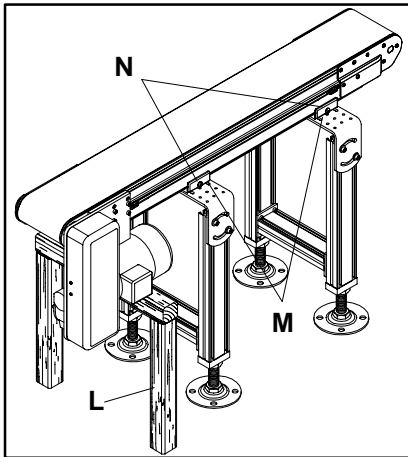

Figure 8
**In addition, the weight of the gearmotor is all on one end of the conveyor. This could cause the conveyor to tip off the stands when the mounting clamps are removed. Be sure to provide some form of support (L of Figure 8) underneath the gearmotor while the belt is being changed.**
1. Safely and temporarily support the conveyor section with a sturdy support mechanism (L of Figure 8) (such as wooden blocks or a sawhorse).
2. Remove and retain the mounting clamp plate screws (N) and clamp plates (M) from both sides of the conveyor.
3. With the clamp plates (M) removed, from both sides of the conveyor, carefully raise-up the side opposite the gearmotor and slide the old belt sideways and away from conveyor.
1. Begin a new conveyor belt installation on the same end and side of the conveyor from which the old belt was last removed. Install the new belt by sliding it sideways onto the conveyor frame assembly, from the non-drive side. Once the new belt is in position, the conveyor can be lowered into contact with the clamp blocks while being careful not to pinch the conveyor belt. With the conveyor in position, replace and fully tighten the screws (N of Figure 8) to secure the mounting clamp plates to the clamp blocks.
4. Then, replace and re-secure the clamp plates (M) and mounting clamp plate screws (N).